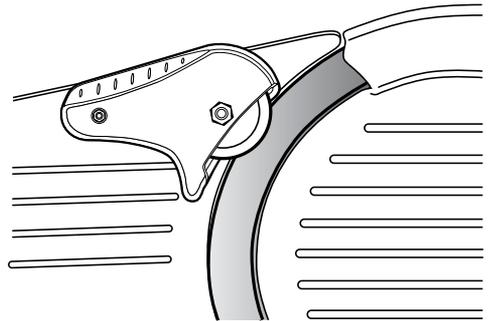

Figure 12. Sharpener in position to remove burr from front of blade edge.
12. Remount the sharpener on the thickness control plate as in Step 6 on page 6 and make certain its forward mounting pin is rotated down tightly to seat fully in its slot. The sharpening stone must now be in front of the blade (see Figure 12) but the stone should not at this point be touching the blade edge.